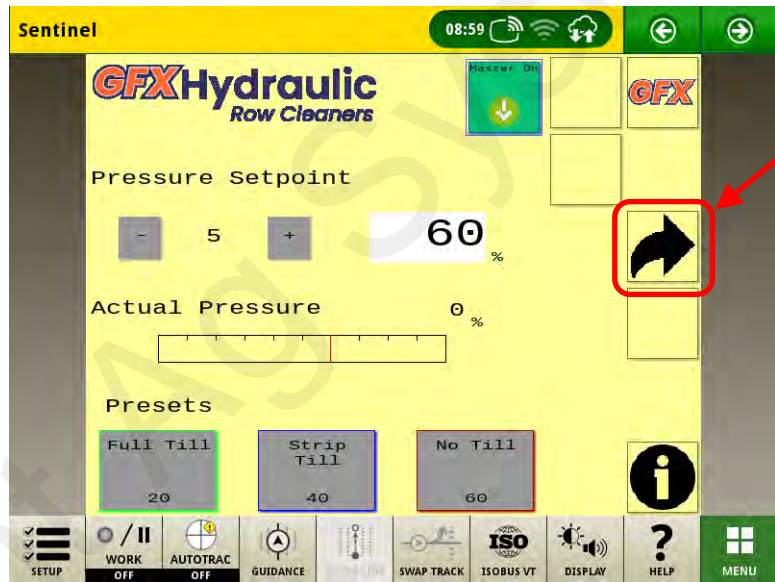
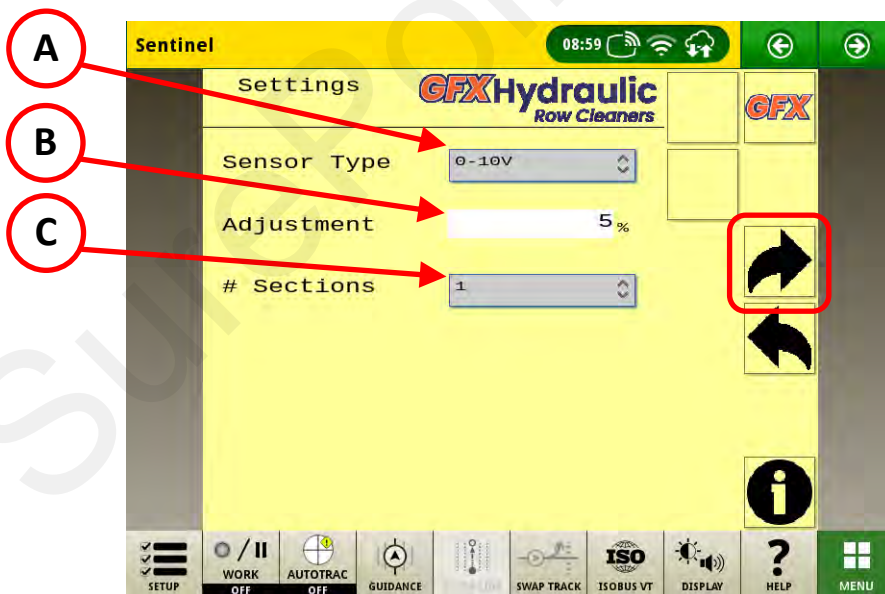

Figure 5.20
Figure 5.21
- 1) From the homepage press the next page button, (fig 5.20 item A) to navigate to settings page (fig 5.21)
- 2) Select the sensor type from the dropdown box (fig 5.21 item A) 0-10V is default for SurePoint sensor. Contact SurePoint Support before changing this value.
- 3) Press the Adjustment box to enter the desired value (fig 5.21 item B). This will change the increment shown on the home page to toggle - or + buttons.
- 4) Select the number of sections from the dropdown menu (fig 5.21 item C). Choose one (1), two (2), or three (3) sections. Only select the appropriate number of sections as your GFX system is equipped with.